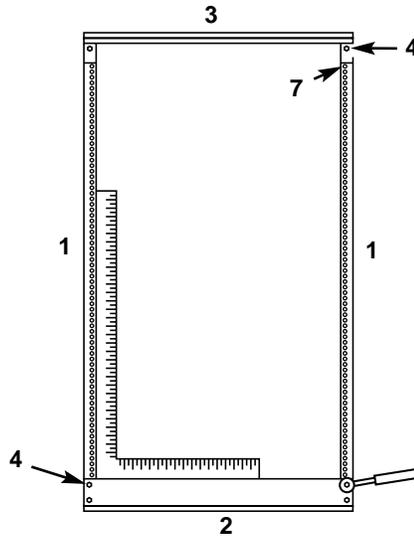

Figure 3-3. Tightening the bolts.
1. Make sure the rack is square by using a level or a carpenter's square, as shown in Figure 3-3.